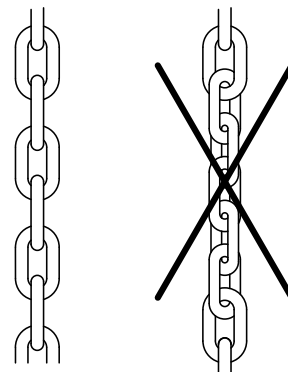

Fig. 2: Variation of the hand
Variation of the hand chain length (Fig. 2)
- When changing the chain length, care should be taken that the chain is cross - assembled (Fig. 2).